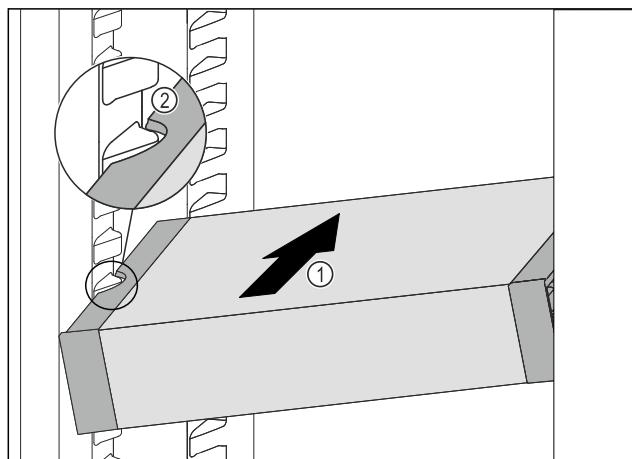

Fig. 121
- ▶ Insert the VarioSafe into the fridge section at an angle Fig. 121 (1) until the recesses in the side Fig. 121 (2) of the VarioSafe are at the level of the support rib in the fridge section.